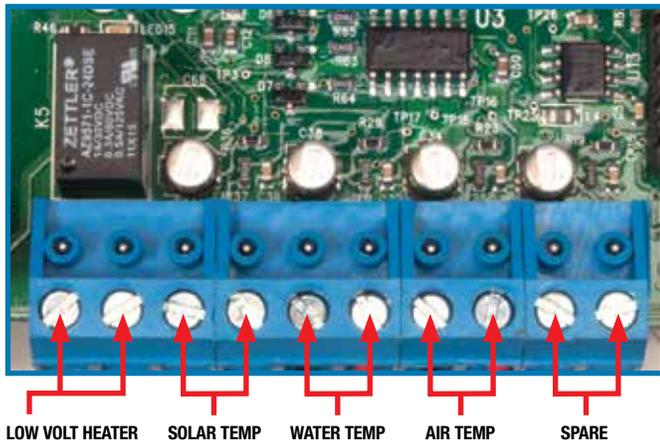

Figure 5. Sensor Connection
3. Connect sensor wires to pins #3 and #4. (see Figure 5. Sensor Connection).
3. Connect sensor wires to pins #1 and #2. (see Figure 5. Sensor Connection).